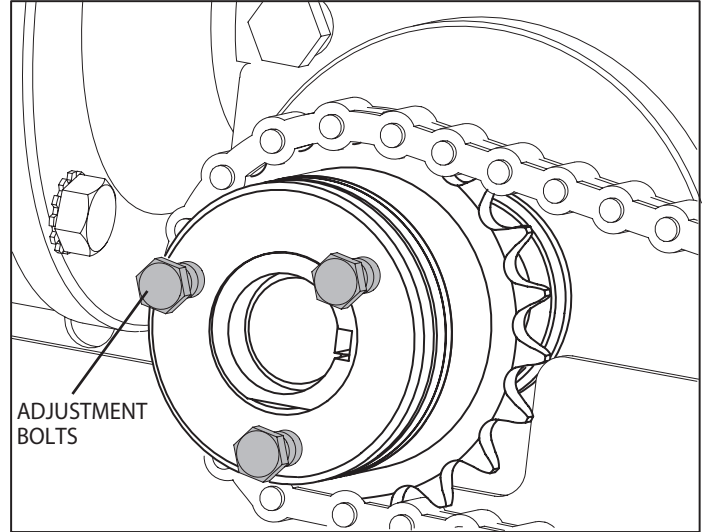

Figure 16
- 2) When making adjustments, be sure to turn all 3 adjustment bolts an equal amount. **Fig 16.**